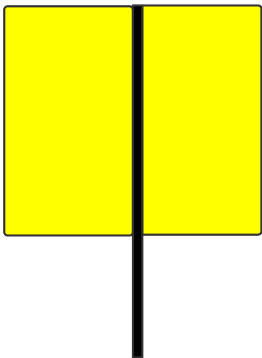

Figure 3: Stop - Imperfectly Displayed Signal
- Figure 3: Points in reverse.
- Figure 3: If both targets display the same colour (yellow) in the trailing direction, the points are mid-stroke and are not correctly set.
- Figure 3: Stop, obtain authority from Rail Protection Officer to pass the compulsory stop board and sound the motive power horn before proceeding.